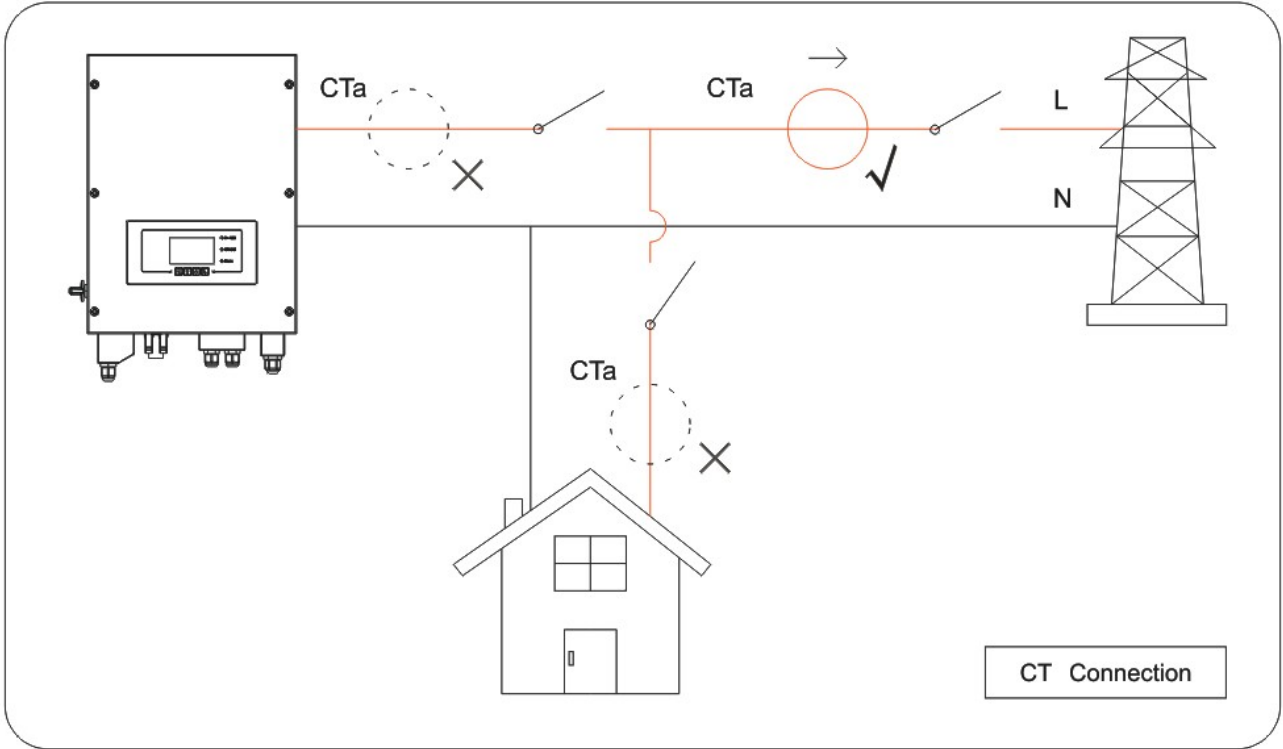

Fig. 11 CTa connection
CT (Current transformer) can measure the value and direction of AC current. Refer to Fig. 11 for the correct connection of CTa.
**Step 1:** Refer to Fig. 11 for correct position of CTa. Wrap the CT around L wire of incoming mains, make sure that the CT arrow direction is “home → grid”.